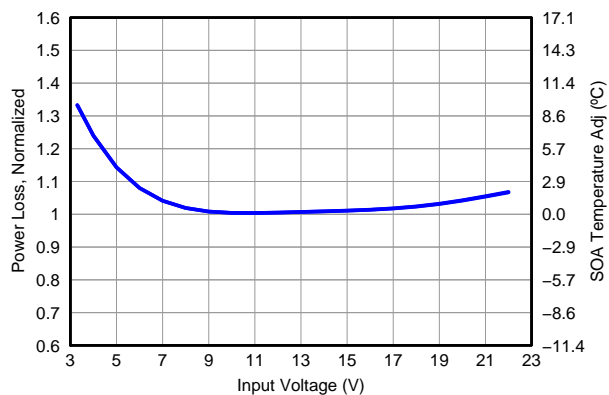

Figure 7. Normalized Power Loss vs Input Voltage
- Normalized Power Loss for input voltage  $\approx 1.0$  (Figure 7)
- SOA adjustment for input voltage  $\approx 0.1^\circ\text{C}$  (Figure 7)